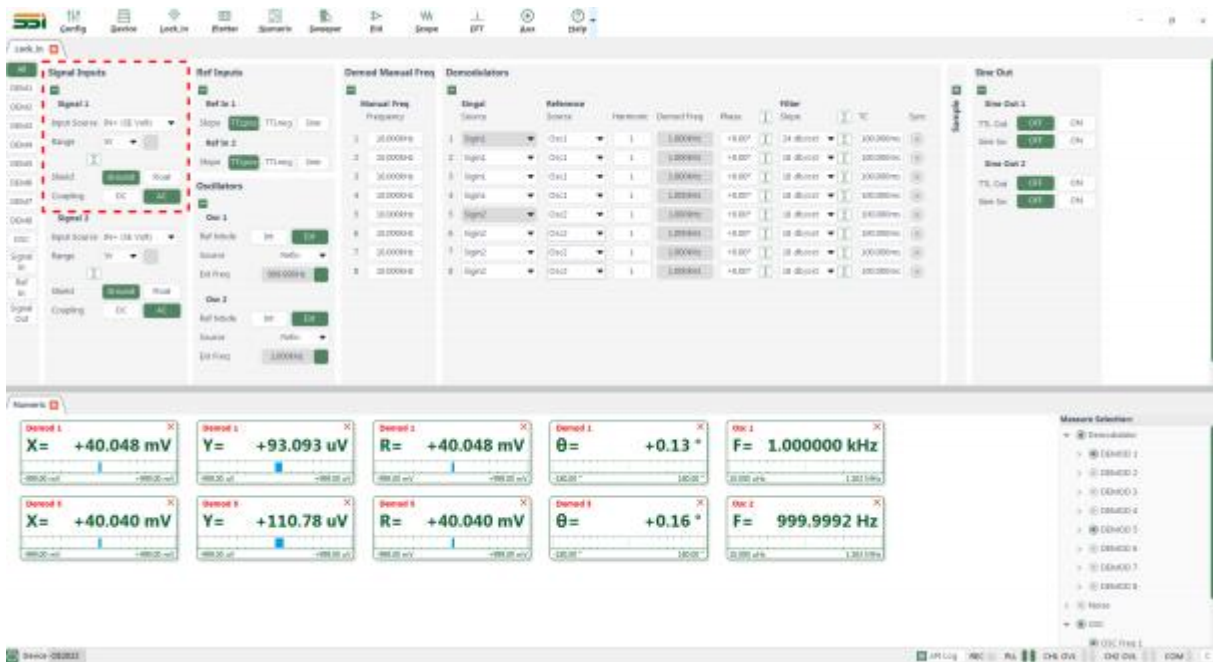

Figure 31. Input Signal Configuration Area
1. According to the configuration in Table 2, modify the input signal type, input coupling method, and input range in the input signal configuration. Other options remain default, as shown in Figures 31 and 32. Select one of the methods for modification.